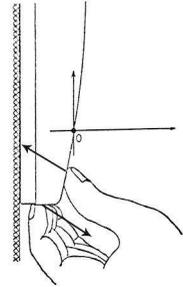

Figure 2.
- 2.1.6. Remove the front cover of the module by bending it relative to point «0» in accordance with Figure 2. Place your thumbs over the clips as close to the point «0» as you can.
- 2.2.7. Close the front cover of the module in order which is opposite to that in which the cover was open (see Figure 2).